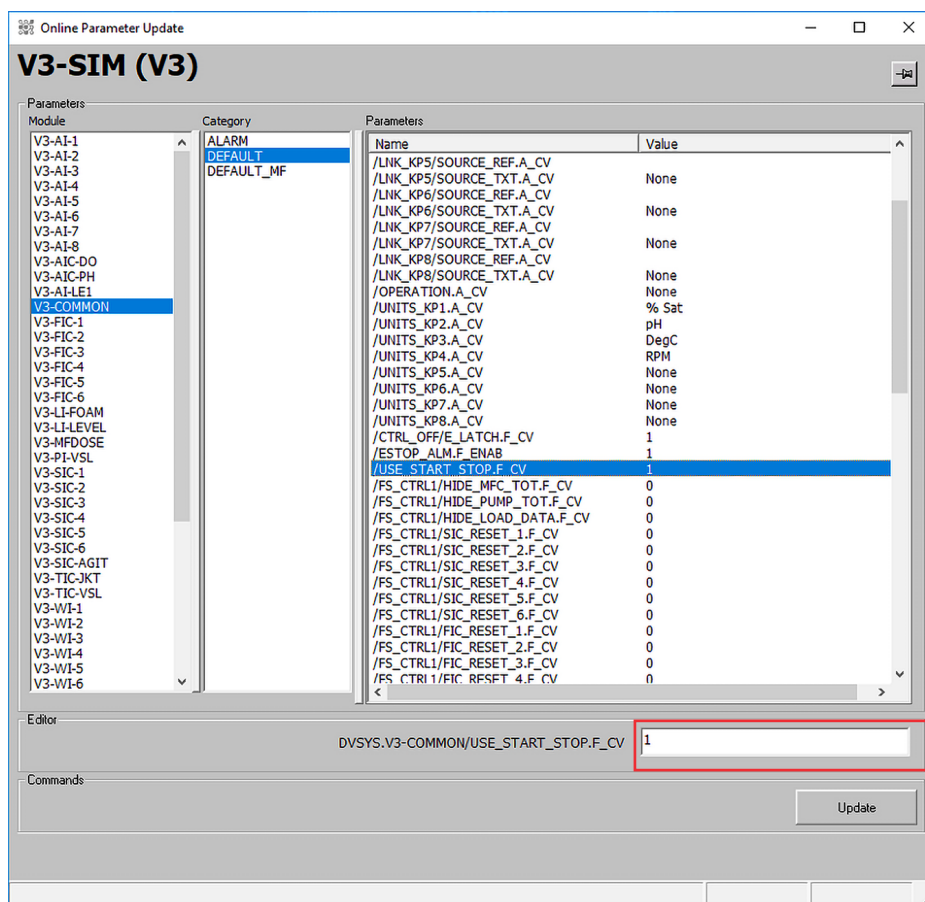

Figure 2.24. Batch Start option selected.
2. Click **Online Parameter Update** from the **Configuration** screen toolbar to open the Online Parameter Update window (Figure 2.24).